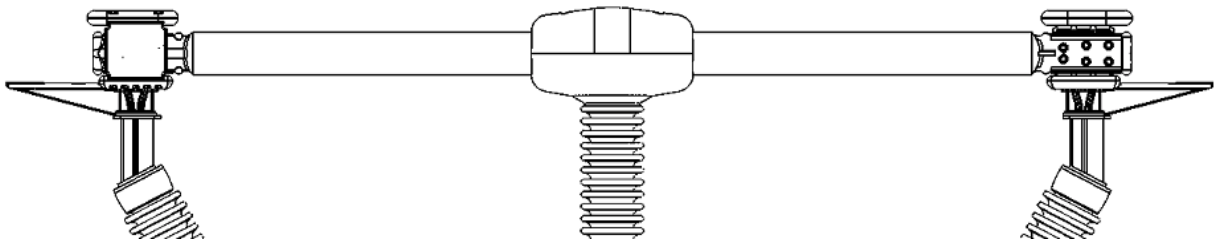

Figure 23: Switch – Fully Closed Position
- 6.3.1. Start with the disconnect switch and operating mechanism in the closed position. Refer to **Figure 23**